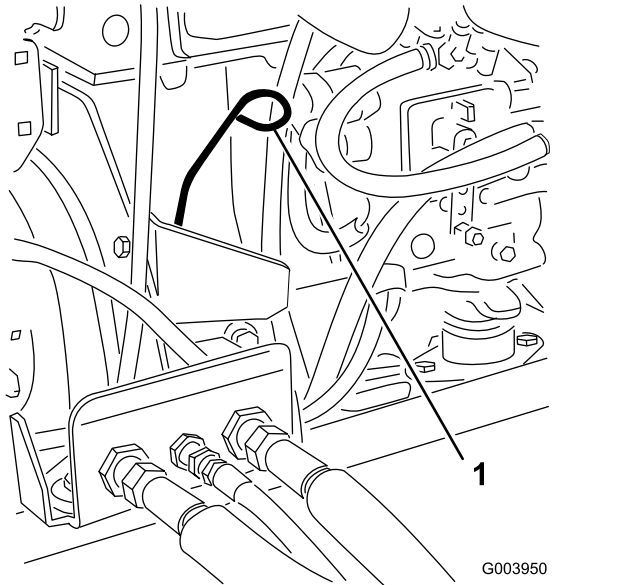

Figure 75
3. Remove the dipstick, wipe it clean, and install it (Figure 75).